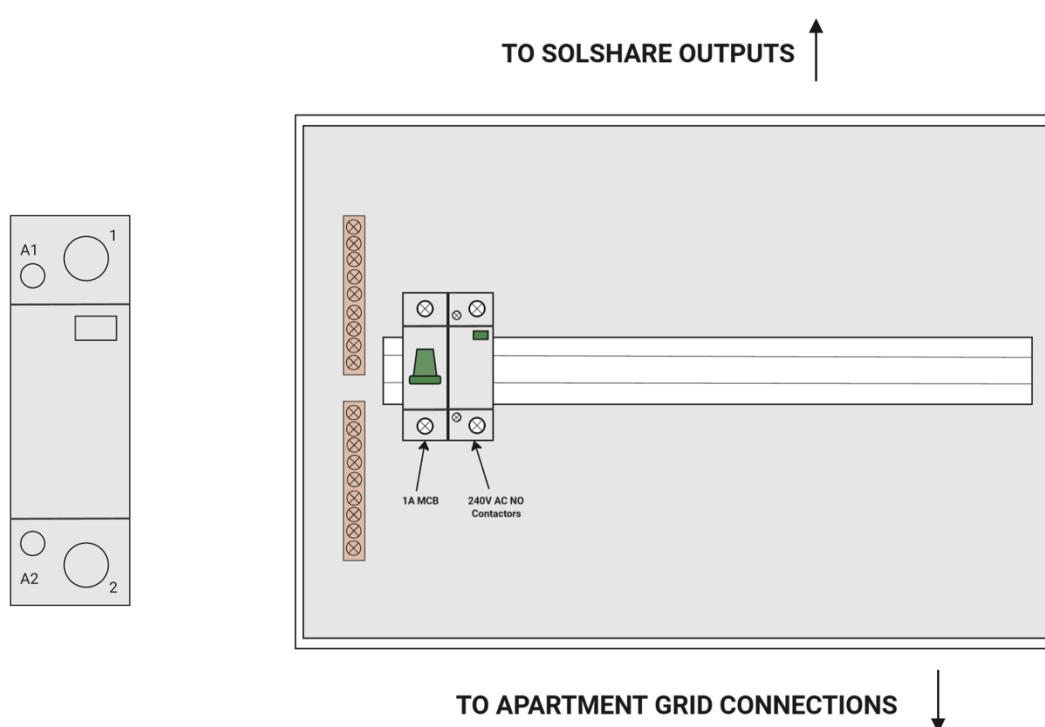

Figure 2: Contactor and MCB arrangement
- Refer to Figure 2 below for more information.